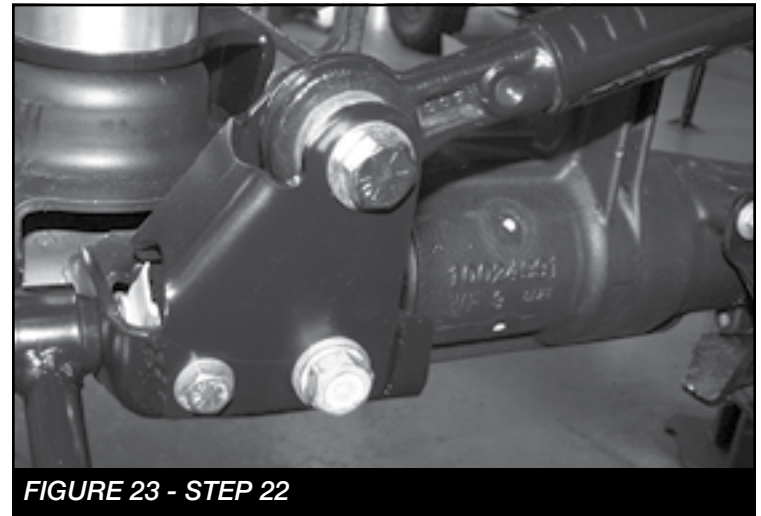

FIGURE 23 - STEP 22
22. Re-install the track bar using the supplied 9/16" X 3" bolt, nut and washers. Torque to 153 ft-lbs. **SEE FIGURE 23**